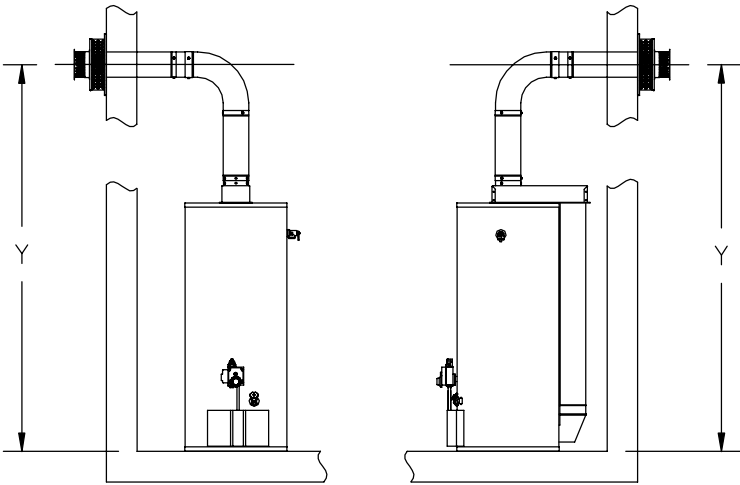

Figure 1
1. Measure the vertical height “Y” required in your installation. Reference the height in the applicable Table A under the column heading “Vertical Height “Y” (See Fig. 1).”